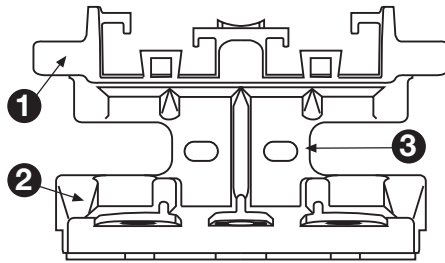

Figure 1
The MPWH is comprised of 3 main sections. (1) the upper platform, (2) the lower platform (3) the connecting stem (See Fig. 1). Each of these sections has several important features critical to the proper functioning of the system. **DO NOT USE THE MPWH IF ANY PART IS DAMAGED, BROKEN OR MISSING.** The MPWH ships with an Accessory Kit containing parts and accessories needed to use the MPWH.